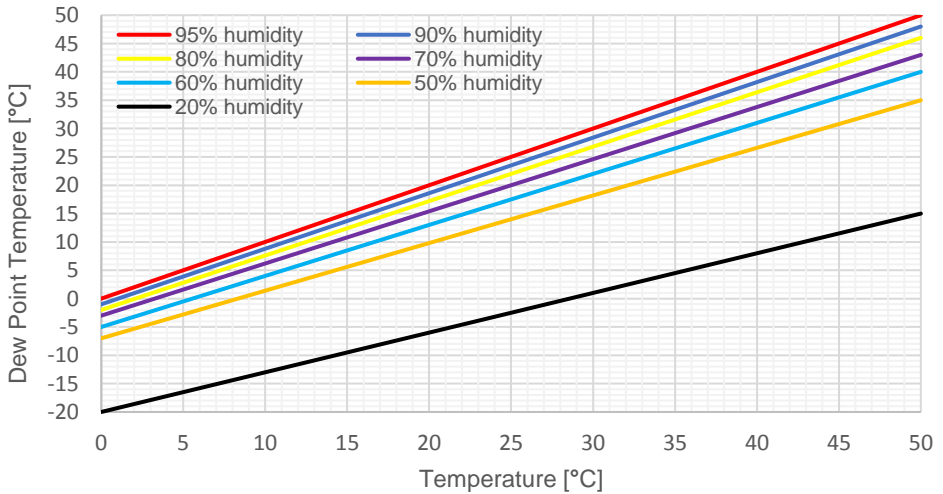

Fig. 7. Graph of dew point temperatures influenced by relative humidity.
- Find the corresponding curve on fig. 7 that matches the humidity of the room in which the device is located.